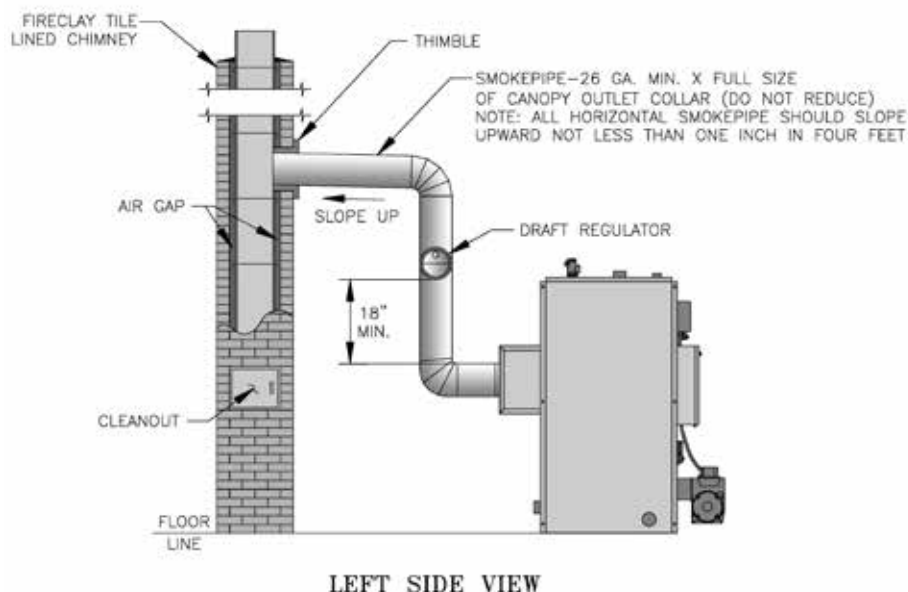

Figure 9: Recommended Smoke Pipe Arrangement and Chimney Requirements
2. The FR™ Series is designed to be vented into a fireclay tile-lined masonry chimney or chimney constructed from type-L vent or a factory built chimney that complies with the type HT requirements of UL103. The chimney or vent pipe shall have a sufficient draft at all times, to assure safe proper operation of the boiler. See Figure 9 for recommended installation.